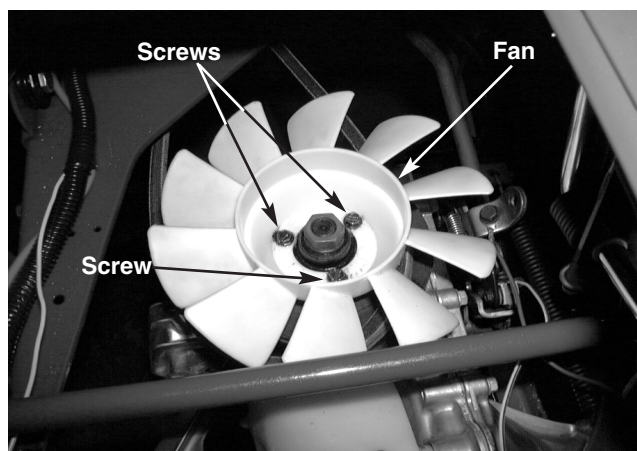

FIGURE 3.
9. Remove the hydrostatic fan. See figure 3.